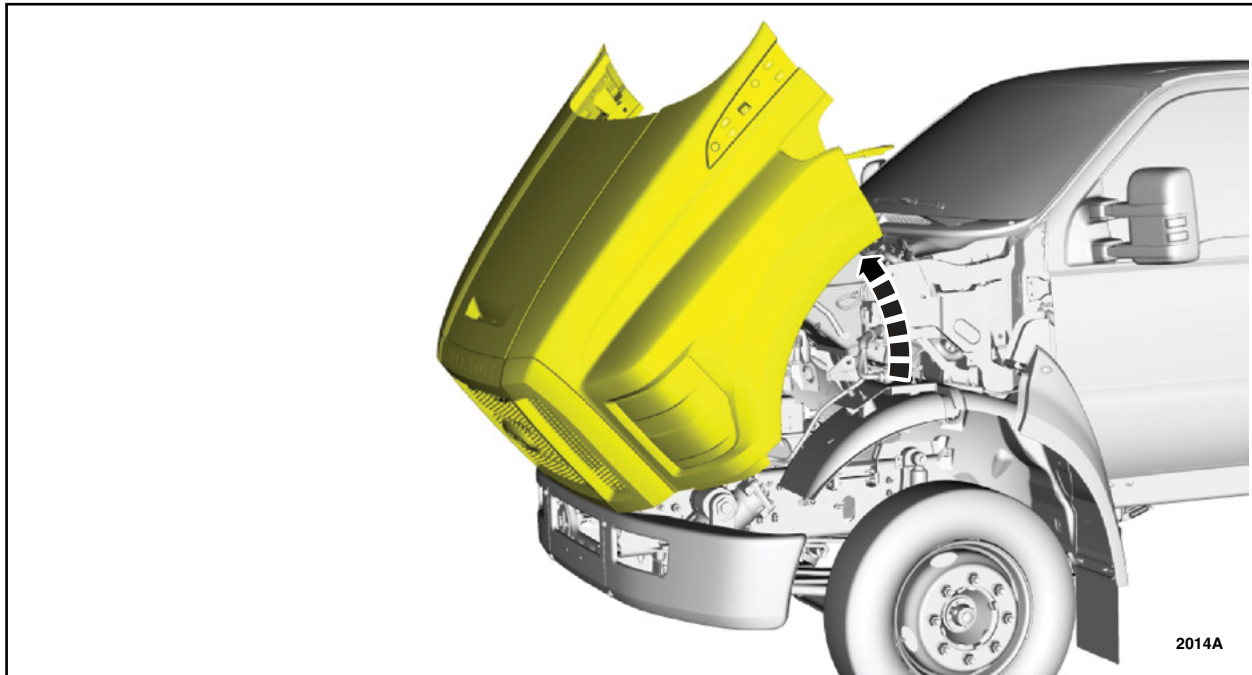

FIGURE 1
1. Open the hood. See Figure 1.